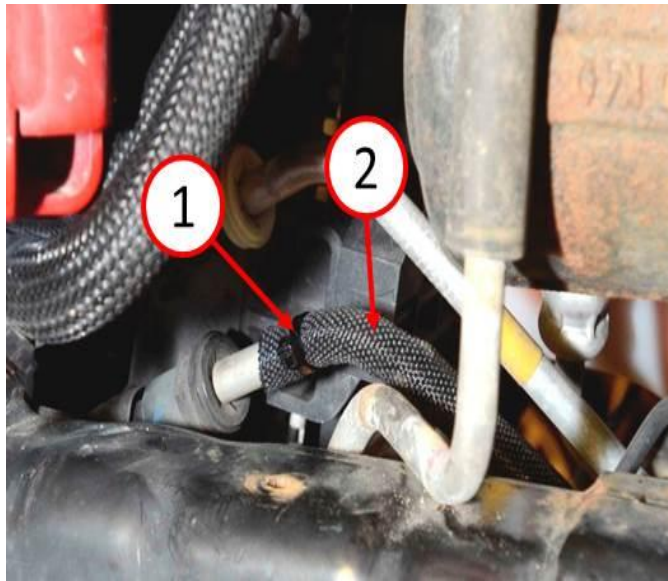

Fig. 4 Transmission Oil Cooler Tube Sleeve
5. Install transmission oil cooler tube protective sleeve. Carefully slide the protective sleeve over the transmission oil cooler tube (Fig.5). Install a plastic tie strap at each end of the protective sleeve and remove the tie strap excess (Fig.4) (Fig.5).